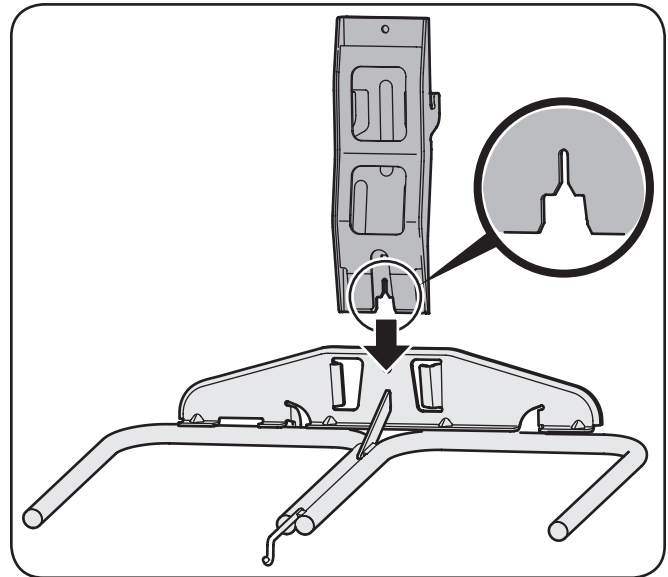
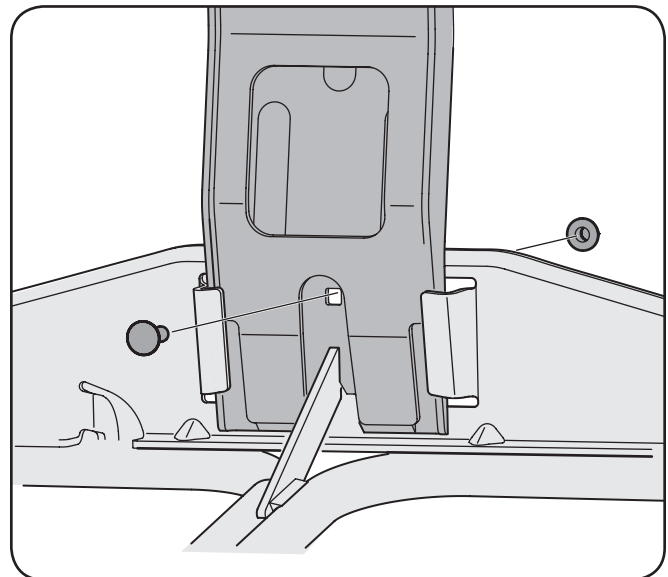

Figure 4-2
Figure 4-3
2. Insert the notched end of the upright support bracket into the bag support assembly, as in Fig. 4-2, and secure with a 5/16-18 carriage bolt and 5/16-18 flange lock nut packed in with the upright support bracket, as seen in Fig. 4-3.